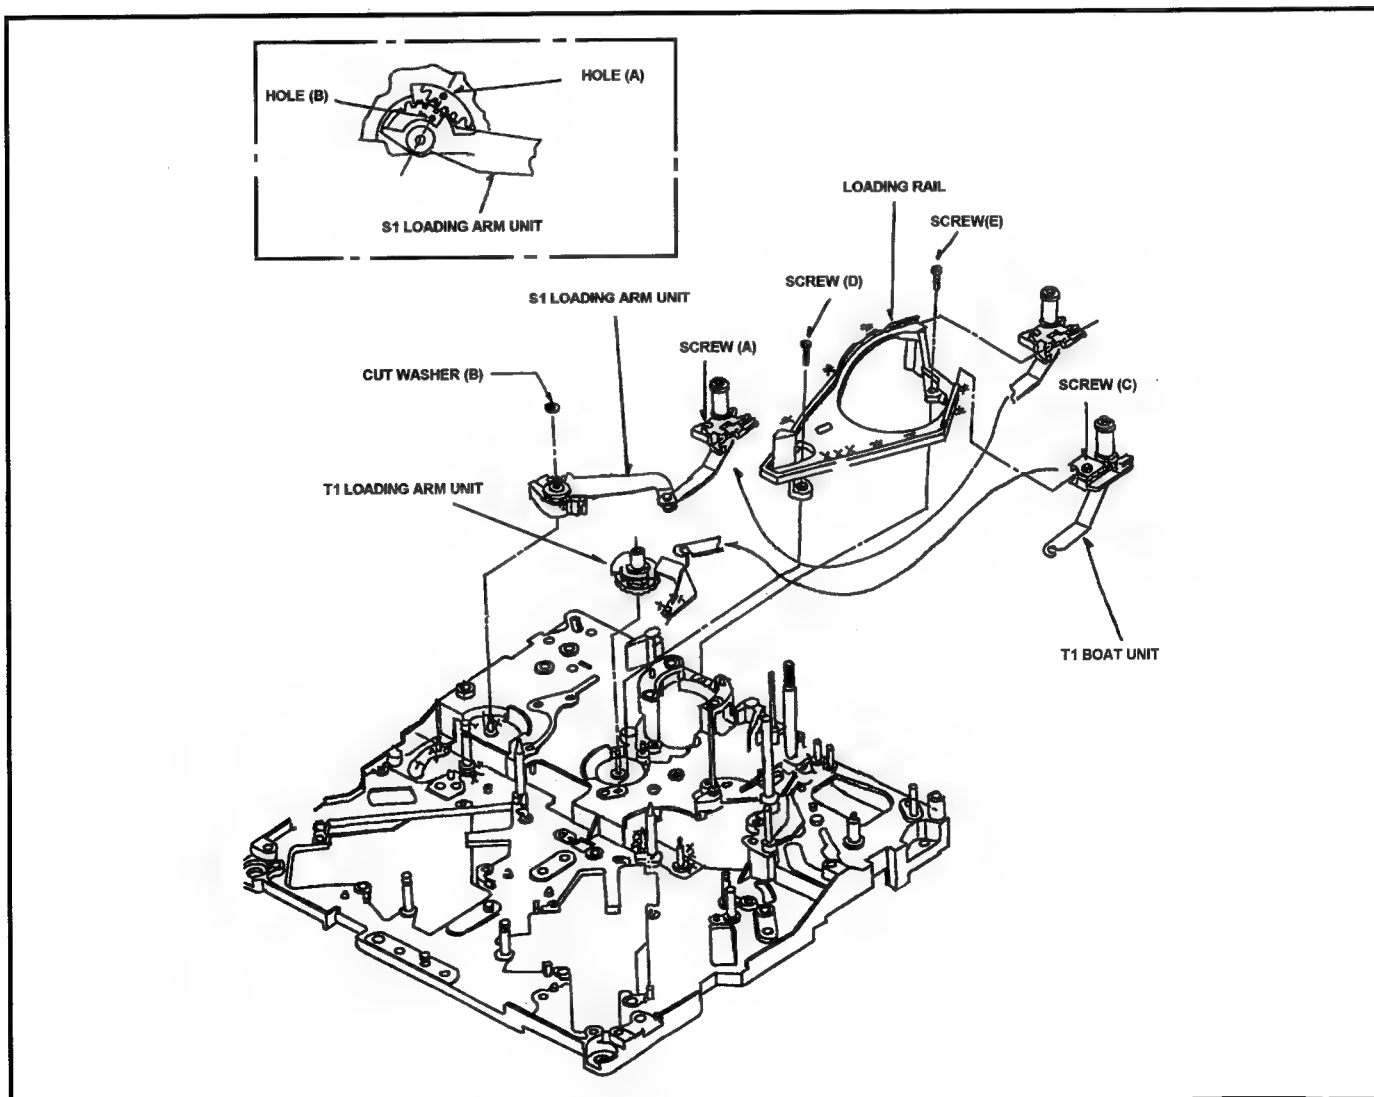

Fig.6-14-1 Removal of S1 Post Loading Arm Unit
3. Unscrew the screw (C) and remove the T1 Post from Loading Rail as shown in Figure 6-14-1.
4. Hang off the T1 Boat Unit from T1 Loading Arm Unit as shown in Figure 6-14-1.
3. Remove the cylinder Unit (Refer to item 6-1).
4. Move the T1 Post to loading direction by manual ejecting method until the screw (D) can be removal position as shown in Figure 6-14-1.
5. Unscrew the 2 screws (A) and (C), then remove the S1 and T1 Post from Loading Rail as shown in Figure 6-14-1.
6. Unscrew the 2 screws (D) and (E), then remove the Loading Rail as shown in Figure 6-14-1.
7. Remove the T1 Loading Arm Unit as shown in Figure 6-14-1.
3. Remove the S5 Post Base Unit (Refer to item 6-12).
4. Remove the Tension Arm Unit(Refer to item 6-13).
5. Unscrew the screw (A) and remove the S1 Post from Loading Rail as shown in Figure 6-14-1.
6. Remove the Cut Washer (B) and remove the S1 Loading Arm Unit as shown in Figure 6-14-1.
1. When install the S1 Post Loading Arm Unit, then the hole (A) should be matched hole (B) as shown in Figure 6-14-1.